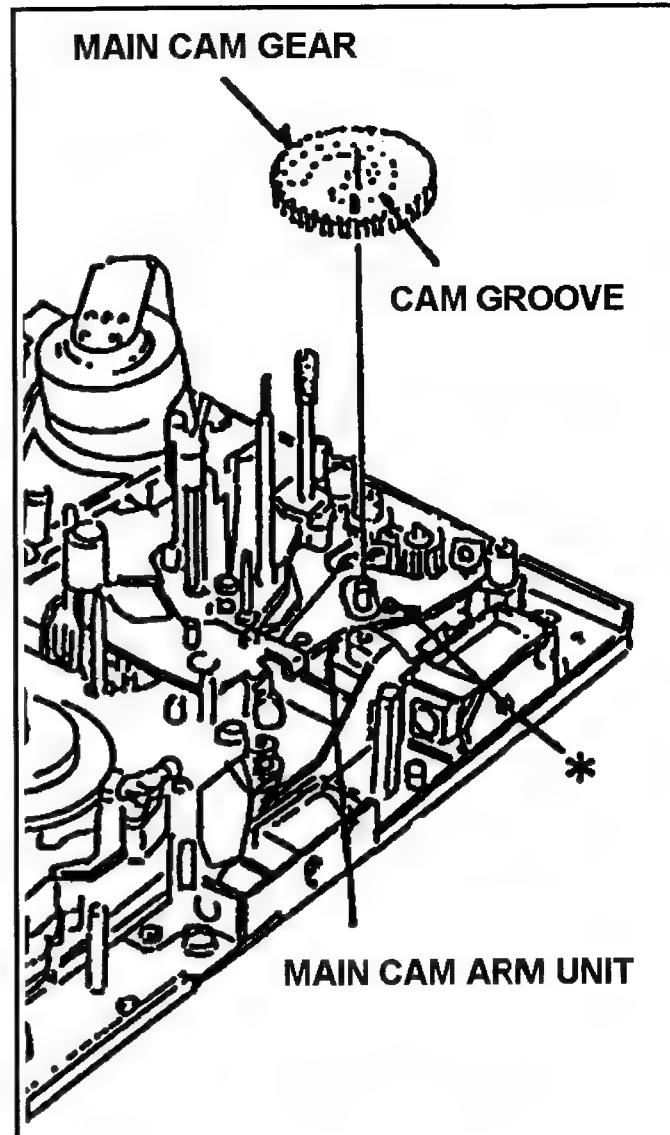

Fig.6-11-1 Removal of Main Cam Gear
3. Remove the Pinch Solenoid Unit (Refr to item 6-7) and Loading Motor Neutral Unit (Refer to item 6-9).
4. Remove the Main Cam Gear as shown in Figure 6-11-1.
1. Install the Main Cam Gear, then the pin of Main Cam Arm Unit (※) should be matched with the groove position of Main Cam Gear as shown in Figure 6-11-1.
3. After installation, Pinch Solenoid Position Adjustment is required (Refer to item 5-2).